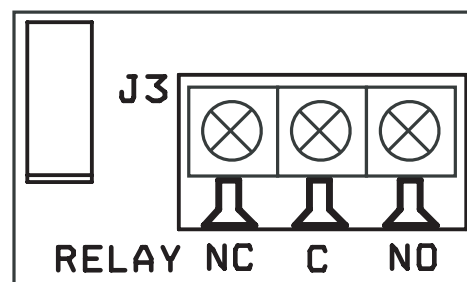

Figure 5: Relay Connection
Use 22 or 18 AWG wire to connect the relay output. The Form C relay can be connected to operate as Normally Closed (NC) or Normally Open (NO). See Figure 5.